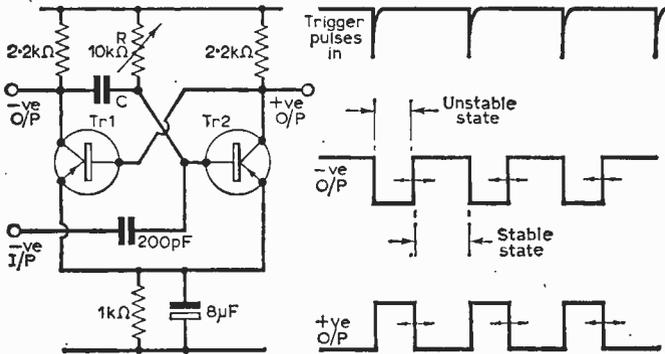

Fig. 36—Circuitry and waveforms of the monostable multivibrator.
The next type of circuit is the monostable multivibrator circuit (Fig. 36). This multivibrator has one stable and one unstable state. The stable state is with Tr1 conducting and Tr2 cut off. If a negative going input pulse is received on the base of Tr2 it starts this transistor conducting, so its collector, and hence the base of Tr2, goes positive, so that Tr1 cuts off and its collector goes negative, driving Tr2 on harder. Capacitor C discharges through resistor R and after a delay the voltage at the base of Tr2 is positive enough to start to bias Tr2 off, which results in a negative rise at
Table 1—Details of the values of C (Fig. 36). See text for use.
the collector and hence the base of Tr1, and the circuit returns to its stable state. This state continues until another pulse is received at the input. The output waveforms are shown in Fig. 36.
The block schematic diagram (Figs. 42 and 44 for the two types of pulse generator) shows the functions of each part of the circuit. As may be imagined a complete circuit diagram would take up far too much room to reproduce satisfactorily here. The letter by each block refers to the text numbers in the blocks of each multivibrator (monostable unless stated) refer to the Table I Fig. 36. The exact period of each multivibrator of output from the multi-vibrator is as shown in Fig. 36. The exact period of each multi-vibrator is set by adjustment of R to the time shown in the block. The times against the inter-connections are relative to the start of line syncs. (as in Fig. 40) and the frequency is indicated by line frequency (LF) or twice line frequency (2LF) or 50c/s for field frequencies.